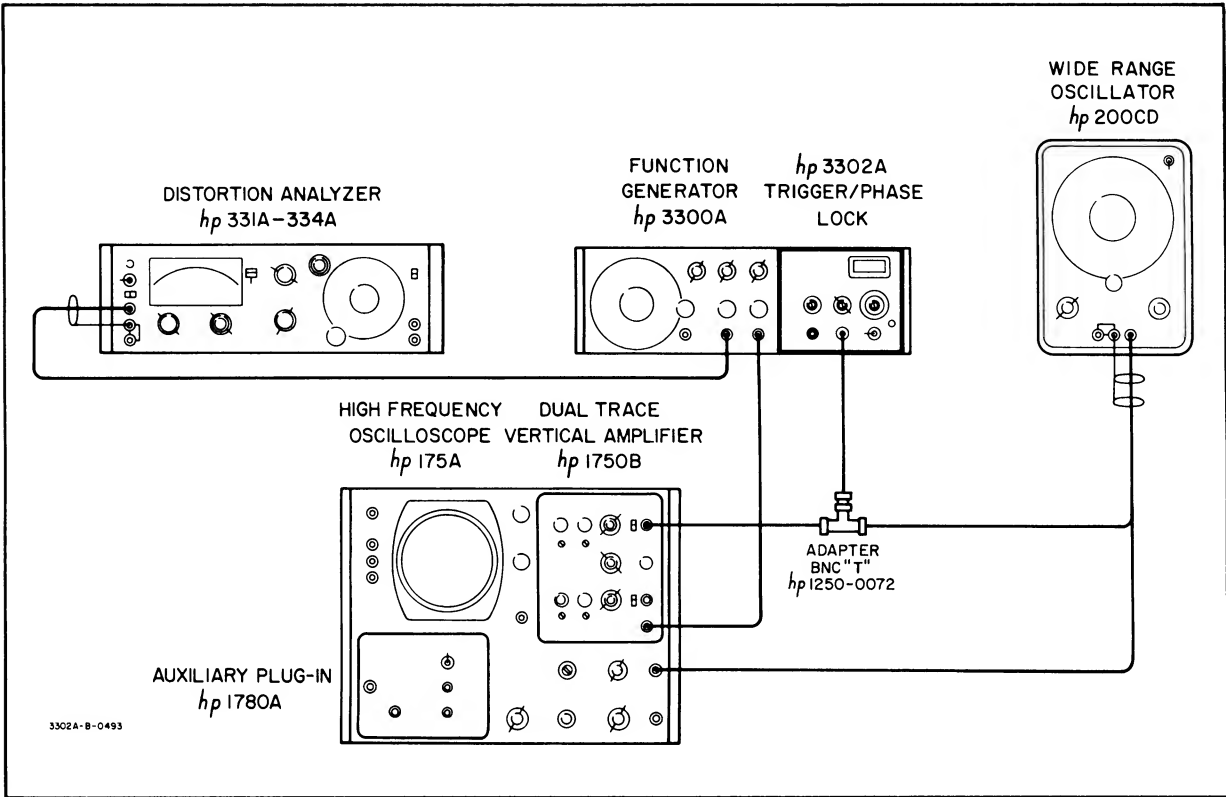

Figure 5-5. Distortion Check Test Setup
- b. Connect instruments as shown in Figure 5-5.